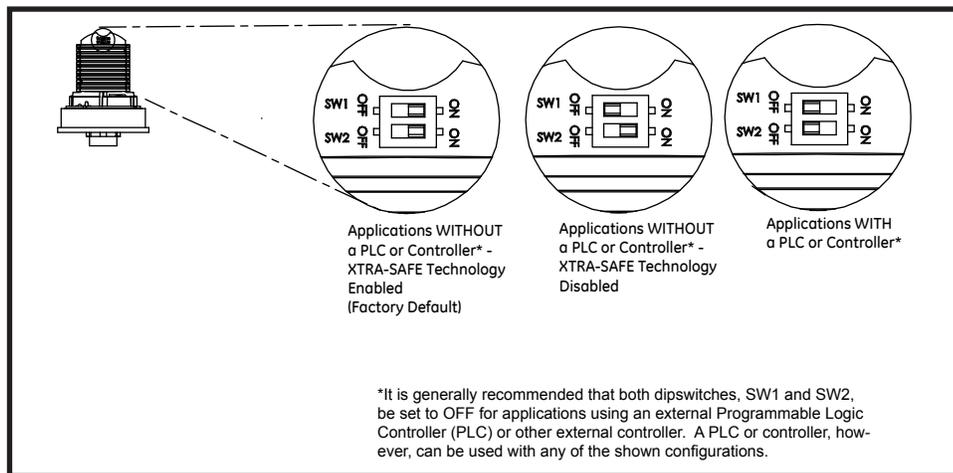

Figure 4. Dipswitch Settings
7. The 105XBRI Multi-Status indicator is shipped with XTRA-SAFE™ Technology Enabled. The unit offers two other field selectable options: (1) for applications without a separate PLC or controller with the XTRA-SAFE™ Technology disabled or (2) for applications with a separate PLC or controller. For more information on the features, refer to the description. For settings, refer to Figure 4.
b. Set dipswitches for desired options (Figure 4)